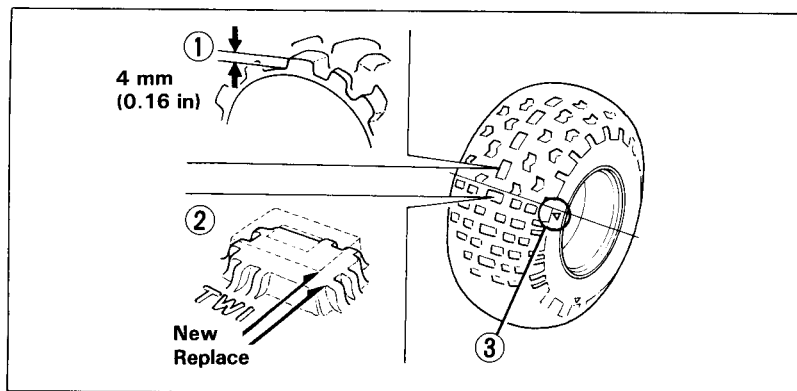

Fig. 4-33
To check the condition of a tire tread, measure the groove depth (1) in the center of the tire, or check the wear indicator (2) as shown in Fig. 4-33. The minimum tread depth is 4 mm (0.16 in). When the tread depth is less than recommended, the tire should be replaced.